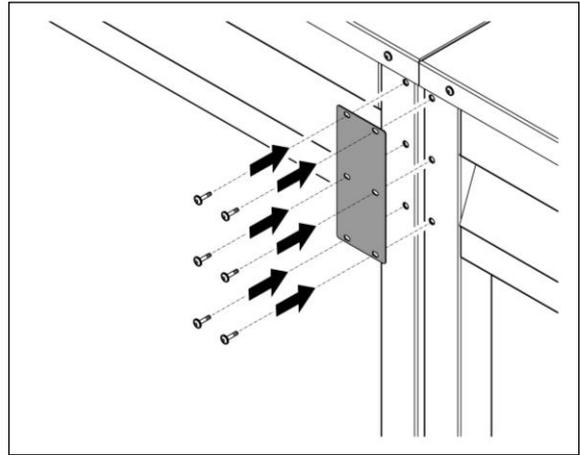

Fig. 4a
1. Connect the units on the guest **and** operator sides with a module connection plate and the screws which were removed earlier. **Fig. 4a**